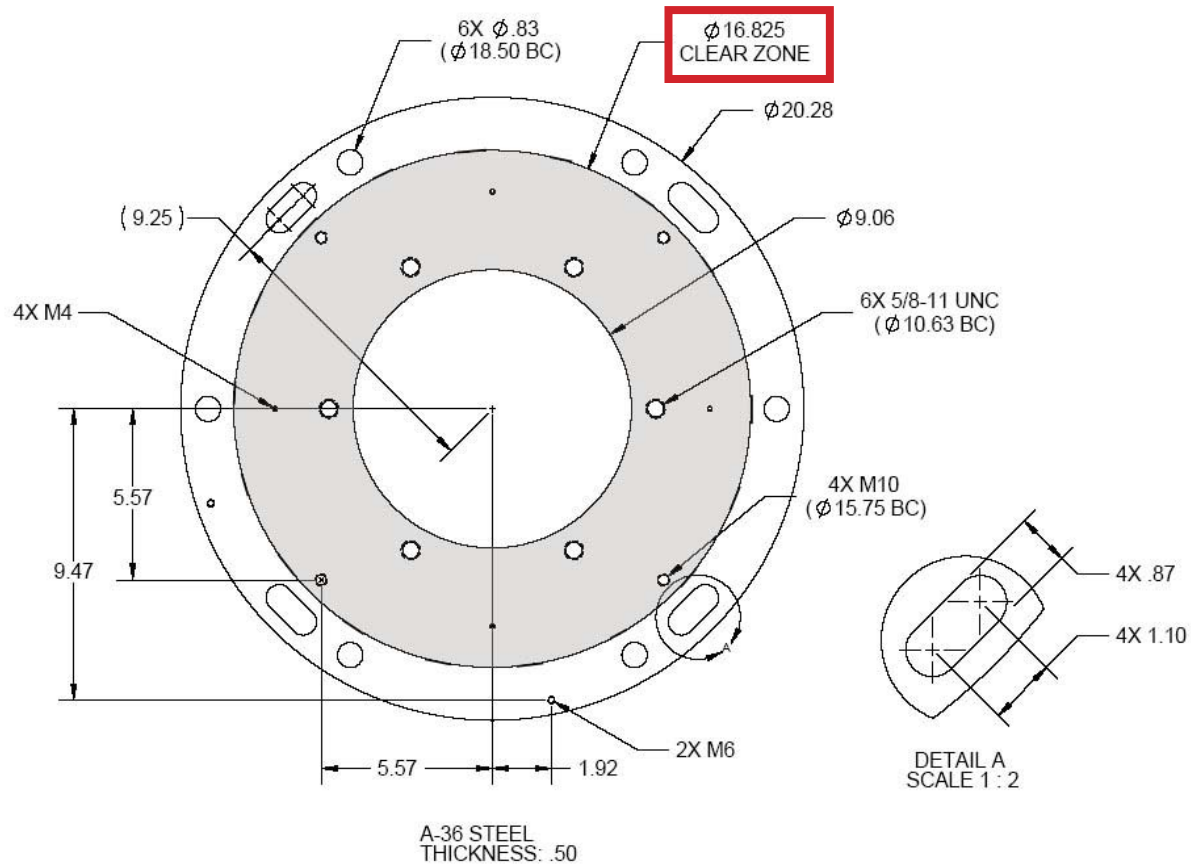

Figure 1: Stryker-supplied Mounting (Interface) Plate
2. Weld the Mounting (Interface) Plate to the support structure along the outer edge of the plate or use the six (.83in) holes along the outer edge of the plate to bolt it to the support structure (see Figure 1).